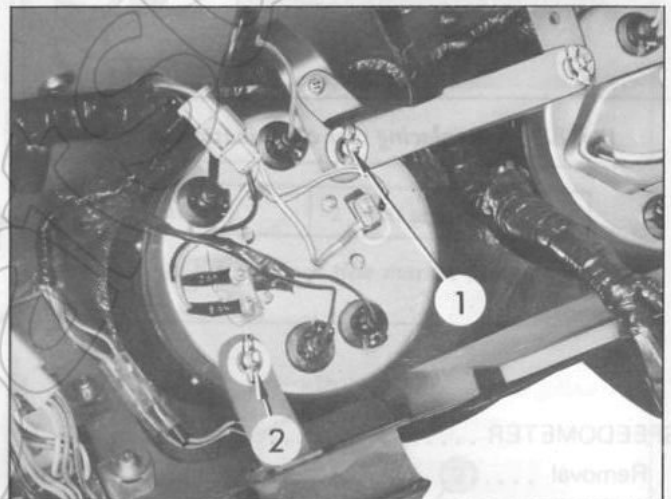

Fig. BE-15
c. See Figure BE-15 for details of the speedometer support bracket and mounting bracket.